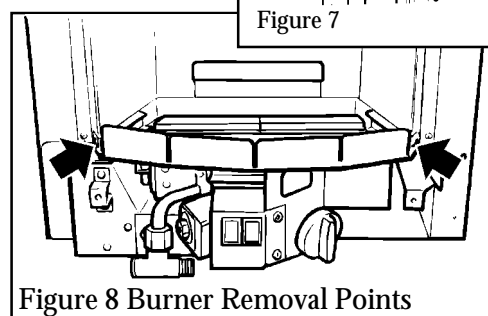

Figure 8 Burner Removal Points
4.6 In the majority of cases temporary removal of mains cable will make connection to the isolating switch easier. To allow this, the burner unit will need to be detached. Detach the burner unit from the convection box by removing two screws (see figure 8).